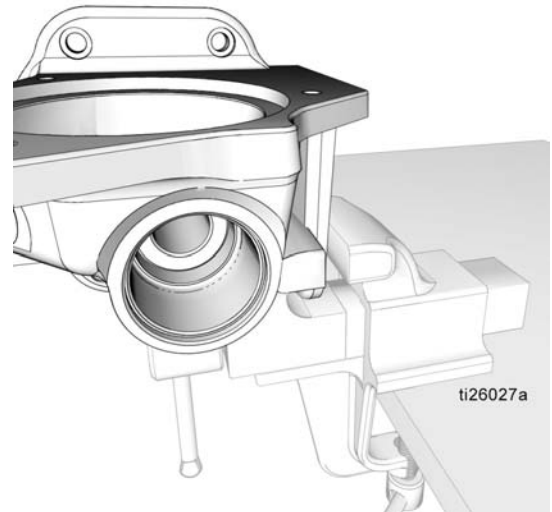

FIG. 39
- 4. Reposition the pump base (1) in the vise as shown in FIG. 39.